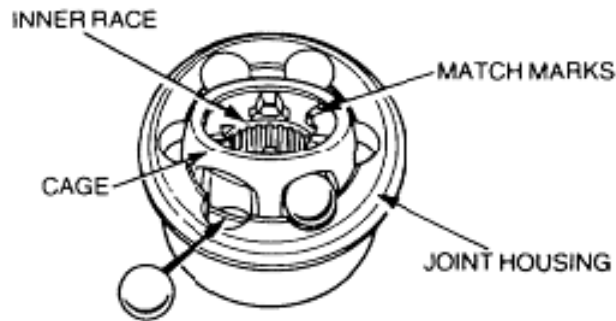

Figure 105 Constant Velocity Joint Steel Ball Removal
- e. To remove the steel balls, tilt and swivel the cage then the inner race (Figure 105).
- f. Tilt and swivel the cage to allow the steel balls to be inserted (Figure 105).